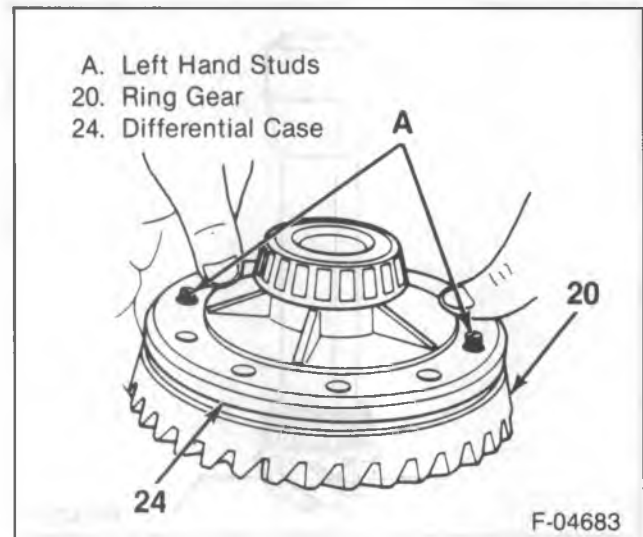

Figure 18—Aligning the Ring Gear Studs
2. Side gears (33) to the differential case (27).
3. Pinion gears (31) to the differential without the thrust washers (30).
4. Pinion thrust washers (30).
5. Ring gear (15) to the differential case (27).
- Place the ring gear onto the case, and align the holes in the case with the studs (figure 18).